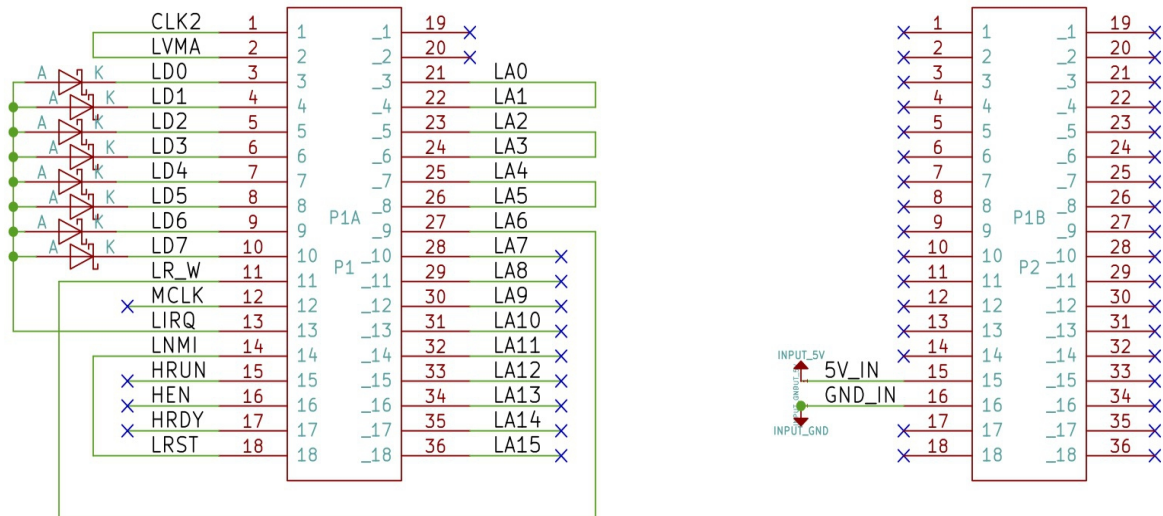

Figure 6: Edge connector schematic
6. In Figure 5 the signal names shown (e.g. LIRQ) are the same as in the schematic. Figure 6 below shows how the edge connectors are wired. For example LA0 and LA1 are wired together so LA0 can be set to a one or zero and the value read back on LA1 to test that those two traces are connected together and not shorted to +5V or ground. Also the other traces are checked to see if LA0 or LA1 are shorted to them.